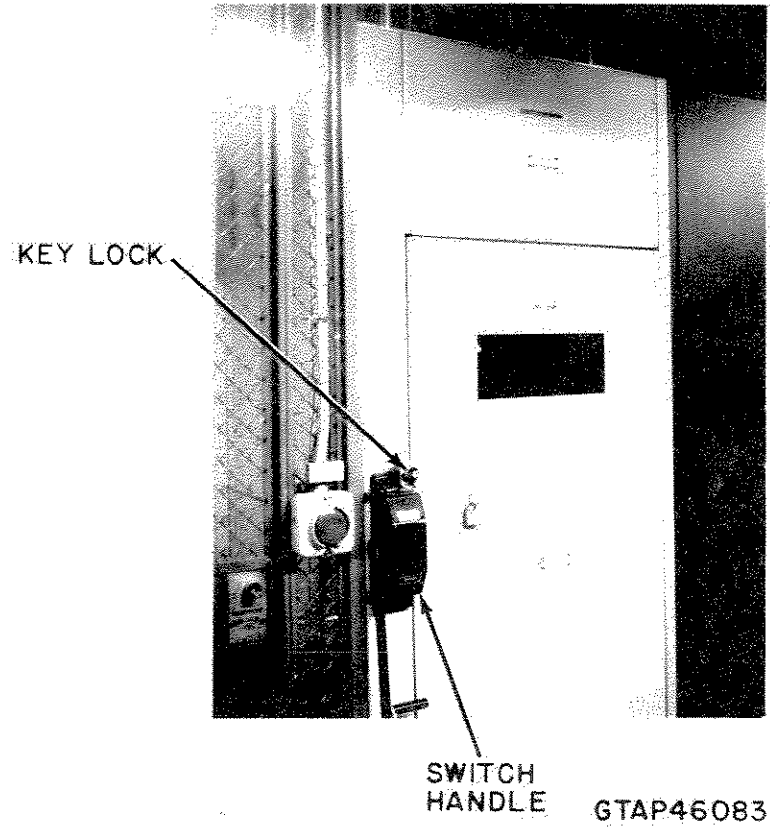

Figure 6-1. Main High Voltage Ac Switch, Unit 321.
- f. Remove the interlock key from the front of main HVAC disconnect switch cabinet (Figure 6-1). Tag key to denote it is from the main HVAC disconnect switch cabinet.